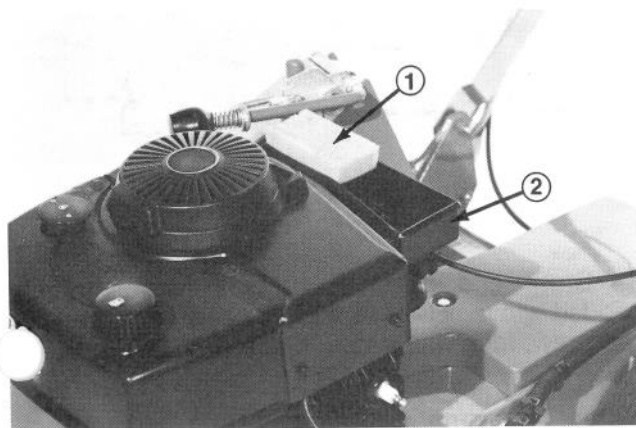

Figure 31
2. Inspect air cleaner element (Fig. 31). If necessary remove and clean (Fig. 31).
- D. Place element into the air cleaner body (Fig. 31).